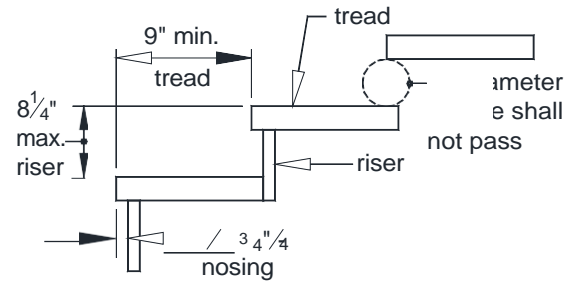

FIGURE 38: TREADS AND RISERS
- Stair geometry and opening limitations shall meet the requirements shown in **FIGURE 38**. Treads, risers and nosing dimensions shall not deviate at each step by more than $\frac{3}{8}$ inches. Note: a nosing is not required if a minimum 11" tread depth is provided.